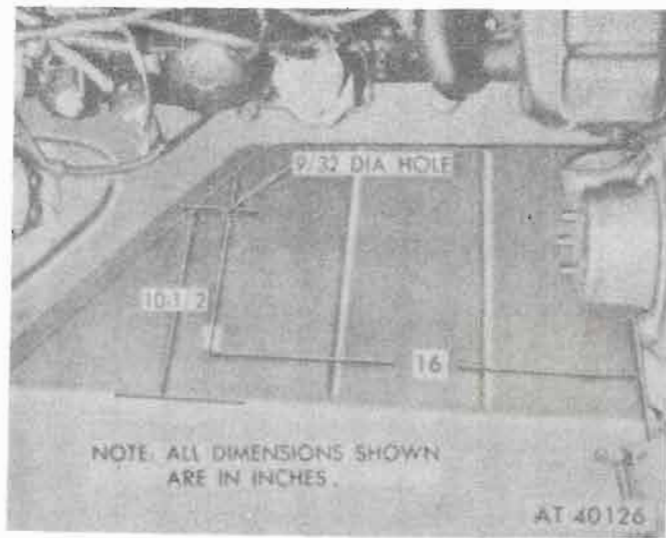

Figure 18-64. Right front fender apron drilling.
c. Locate and drill a $9/32$ -inch diameter hole in right fender apron (fig. 18-64).